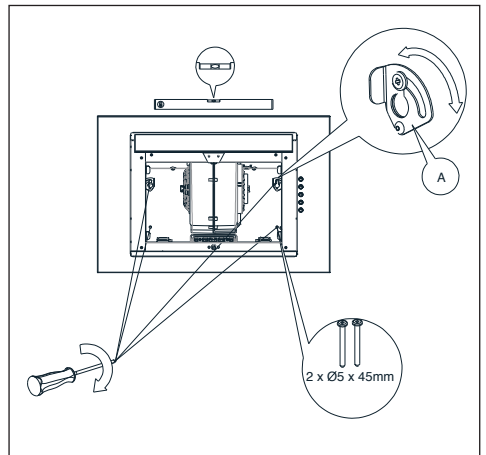

Fig.8 Range hood positioning
5. Place the level on the hood body. Rotating the element marked with A, adjust the hood level according the level's indications, and then tighten two screws previously screwed partially and screw in two remaining screws (Fig. 8).